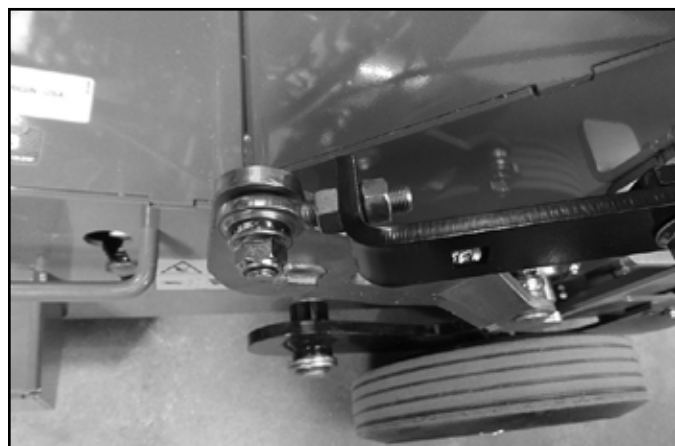

Fig. 084
15. Install the jam nut that is connected from the ball joint to the lift link (Fig. 084).